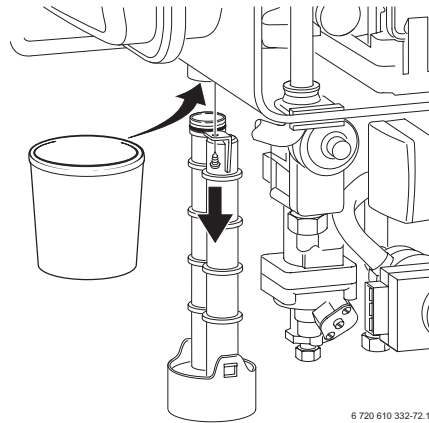

Fig. 47
- ▶ Unscrew condensation trap and place suitable container underneath. Refer to fig. 47.
In order to prevent spillage of condensate the condensation trap should be completely removed, (see page 38, fig. 47).